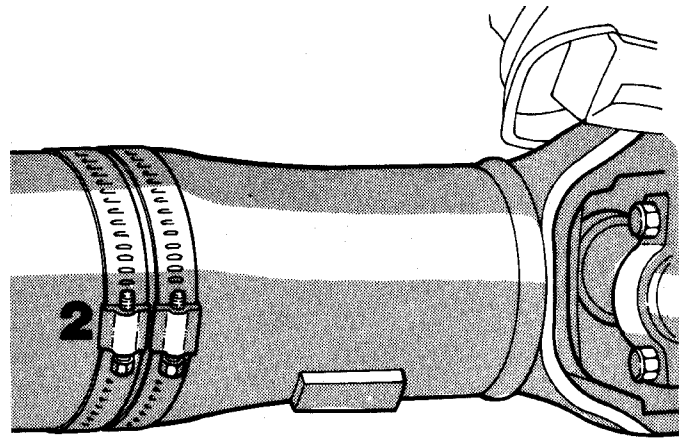

Fig. 8 Two Clamp Screws At The Same Position
(10) Start the engine and re-check for vibration. If there is little or no change in vibration, move the clamp to one of the other three positions. Repeat the vibration test.
(11) If there is no difference in vibration at the other positions, the source of the vibration may not be propeller shaft.
(12) If the vibration decreased, install a second clamp (Fig. 8) and repeat the test.